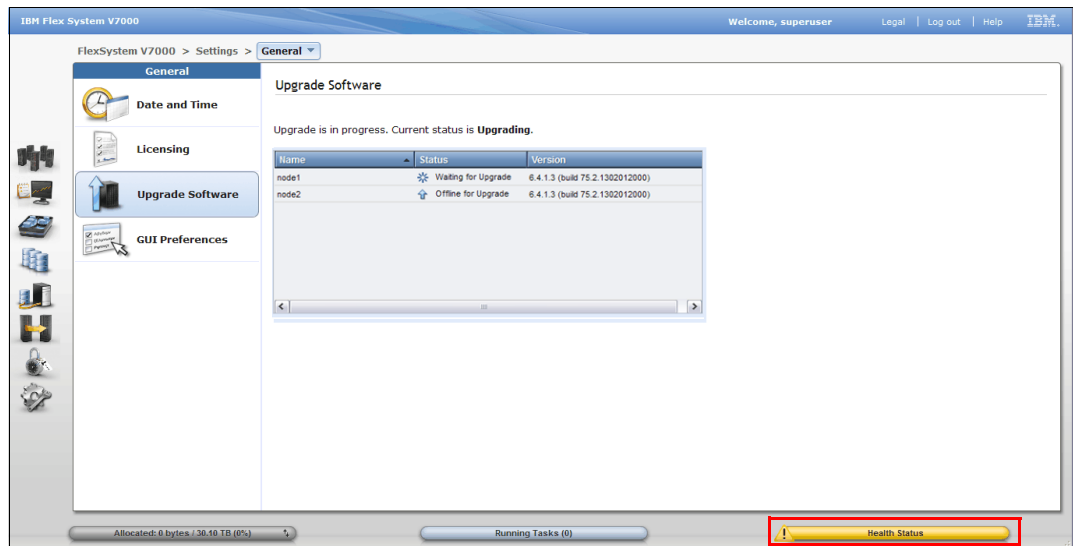
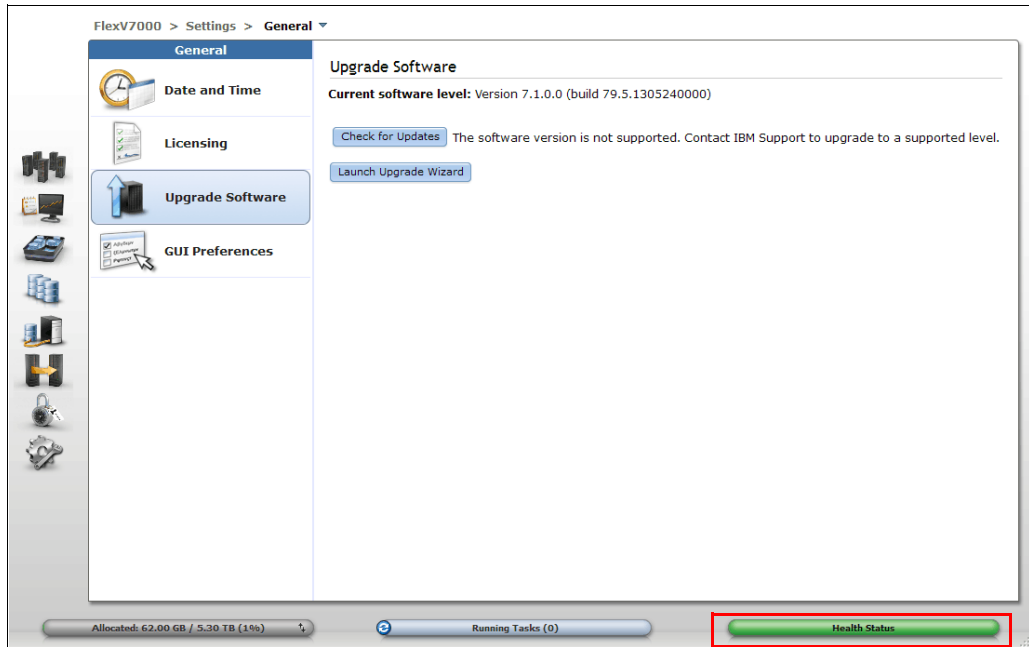

Figure 13-23 Monitoring upgrade status
Figure 13-24 Software upgrade complete
11. Click **Finish** to complete your software upgrade. You receive a message informing you that the first node, then the other node, has been upgraded. When both nodes have been rebooted, you have completed your IBM Flex System V7000 Storage Node software upgrade, as shown in Figure 13-23.
**Tip:** The System Health Status changes from green to yellow as soon as the upgrade starts on the first node canister, as shown in Figure 13-23. It will change from yellow to green again when the upgrade on the second node is complete, as shown in Figure 13-24.